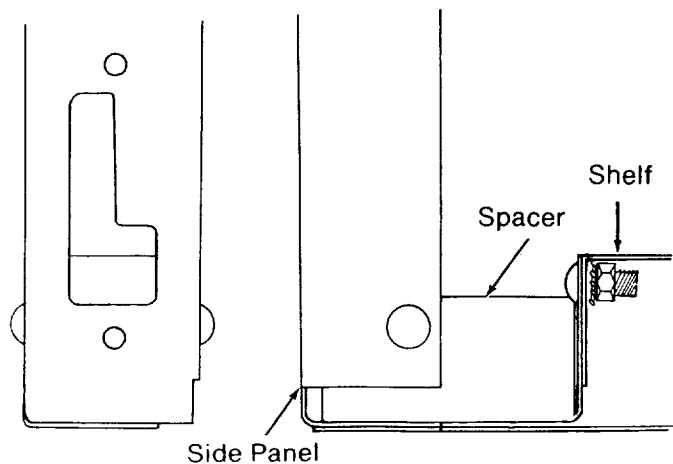

Fig. 55
27. Put a truss head bolt through the back of the *right spacer* and front edge of the *shelf*. (Figure 55)